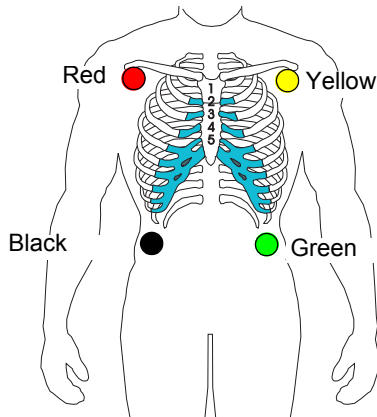
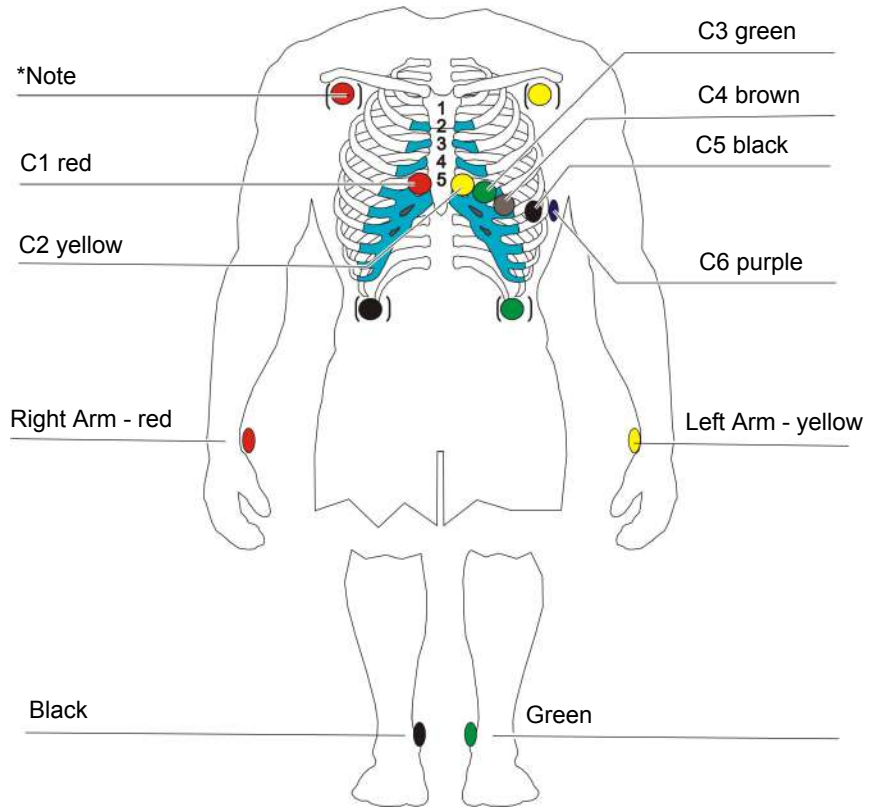

Fig. 4.4 4-wire cable
Fig. 4.5 10-wire cable
1. Apply the electrodes as shown in Fig. 4.4 or Fig. 4.5.
1. Apply the electrodes of the 10-wire ECG cable as shown in Fig. 4.5.